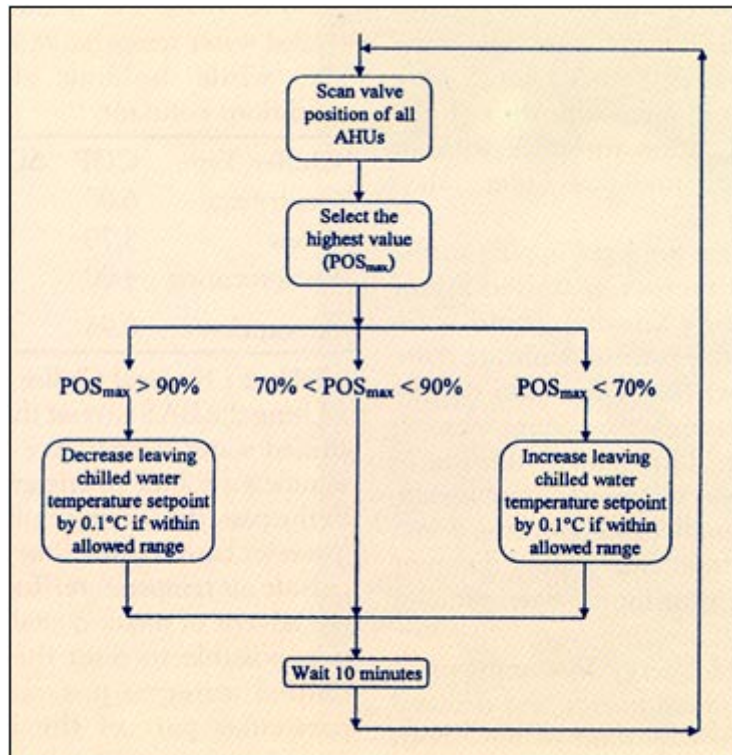

Figure 2 : Chilled Water Setpoint Reset Algorithm
**Figure 2** shows an algorithm used by the BAS to determine the optimal leaving chilled water set-point. This algorithm will maximize energy savings and ensure that the building loads are always satisfied. An alert operator can monitor which of the AHUs is consistently